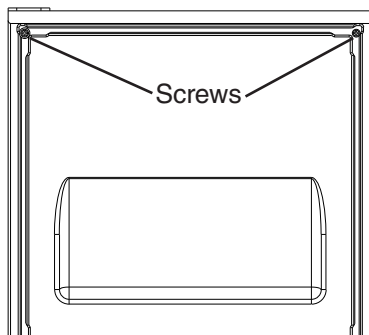

Fig. 11
- 9) Temporarily fasten the overlay panel to the door using 2 of the M4x25 pan head screws provided. **NOTICE! Ensure that the back surface of overlay panel is flat before attaching.** See Fig. 11.